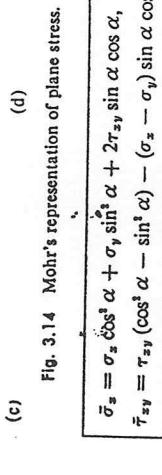

Fig. 3.14 Mohr's representation of plane stress.
The points with coordinates $(\bar{\sigma}_z, \bar{\tau}_{xy})$, $(\sigma_z, 0)$, $(\sigma_y, 0)$, and $[(\sigma_z + \sigma_y)/2, 0]$ are plotted in the stress representation τ_n , τ_{xy} -plane of Fig. 3.14(d) with normal stress as abscissa and shear stress as ordinate. Here we permit τ_n to have negative values, thus differing from the discussion in Sec. 3.4. Let 2β be the angle shown in Fig. 3.14(d). Then
representation plane for various values of α , all such points will lie on the circle with center at $[(\bar{\sigma}_z + \sigma_y)/2, 0]$ and radius R in Fig. 3.14(d). Equations (10) are parametric equations of the circle in terms of the parameter α . Its Cartesian equation is found, by eliminating the trigonometric terms, to be
For a given state of stress, σ_z , σ_y , R , and β are definite numbers. The stresses $\bar{\sigma}_z$, $\bar{\tau}_{xy}$ on planes at various angles α in Fig. 3.14(a) are then given by Eqs. (10). If the points with coordinates $(\bar{\sigma}_z, \bar{\tau}_{xy})$ are plotted in the stress